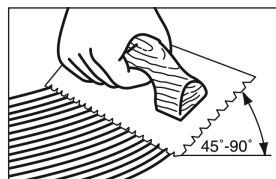

Figure 9
- Hold trowel at a minimum 45° angle (Figure 9) firmly against the subfloor to obtain a 50-60 ft.2 (4.5-5 m2) per gallon spread rate (20-30 ft.2 per gallon for Bruce® Summit Select or Bruce® ProConnect Plus spread with listed trowels). The trowel will leave ridges of adhesive and very little adhesive between the ridges. This method will allow you to still see the chalk lines between the ridges and provide the recommended spread rate.